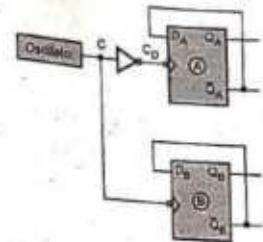
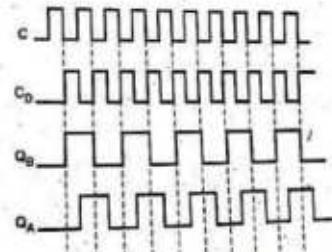

Fig. 5.7.7 Clock system with delayed clock signal
Fig. 5.7.8 Waveforms of clock system with delayed clock signal
- Fig. 5.7.7 shows the clock system with delayed clock signal. The oscillator generates a clock signal C and its delayed version ( $C_D$ ) is obtained by inverting the clock signal C. As shown in Fig. 5.7.8 the signal  $Q_A$  generates clock transition at the beginning and at the one-half point of the period and signal  $Q_B$  generates clock transition at the beginning and at the one-quarter point of the period.